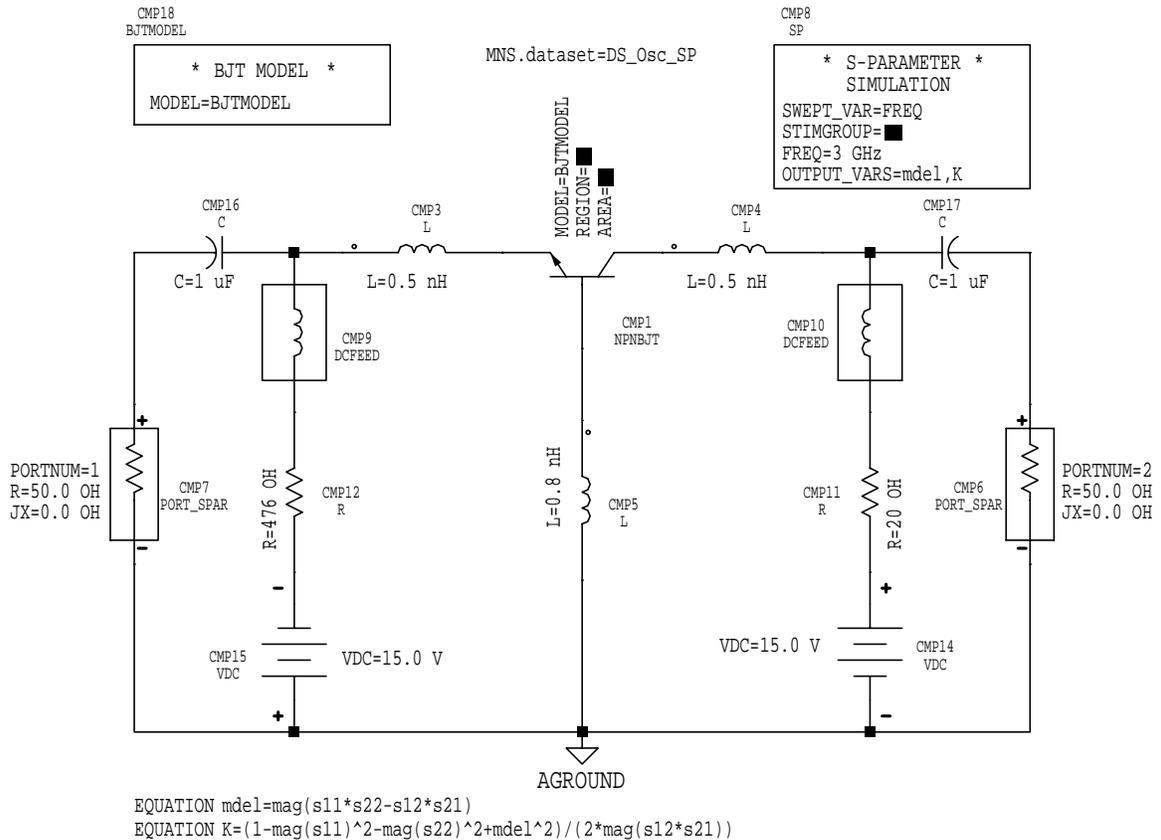

Figure 2: Characterization test circuit
- Construct the circuit shown in Figure 2.
- The stability versus base inductance test circuit is identical to the circuit in Figure 2. You do not have to make any changes.
This is essentially the same circuit as in Figure 2, but the S-port on the terminating port has been replaced by a special component labeled *S1P*. *S1P* is a single port device that presents a fixed reflection coefficient at its input terminals. This allows you to easily insert a terminating network without worrying about the actual implementation details.